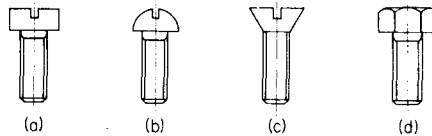

Fig. 8
21. Which screw (Fig. 8) has a cheese head?